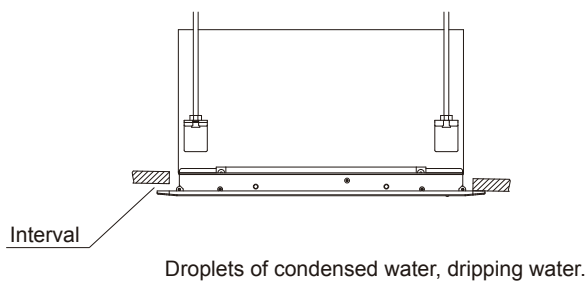
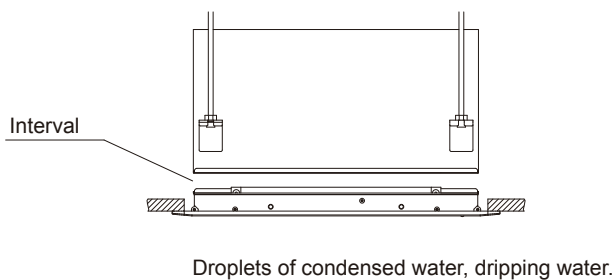

Figure 3.17
Figure 3.18
- To prevent air and water leakages, make sure there is no gap between the ceiling, panel, and unit body. See Figure 3.17 and Figure 3.18.